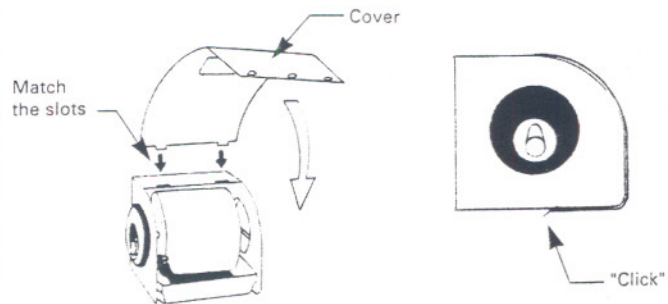

FIG.24
4. Put the cover back on the humidifier. (Fig.24)